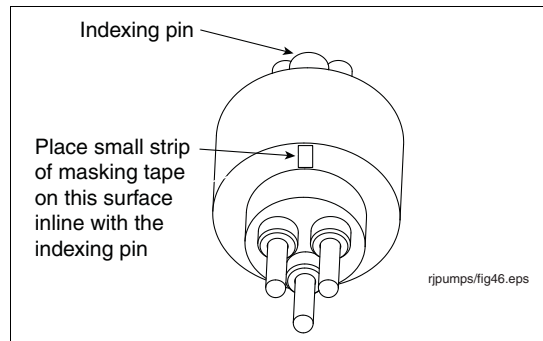

Figure 49. Placing Masking Tape Alignment Marker On Front Of Male Connector
12. Place a small piece of masking tape on the pins side of the connector inline with the indexing pin (see Figure 49).